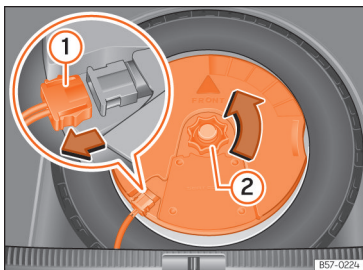

Fig. 249 In the boot: remove the subwoofer.
- Disconnect the subwoofer's speaker cable >>> Fig. 249 ①.
- Turn the securing wheel anti-clockwise >>> Fig. 249 ②.